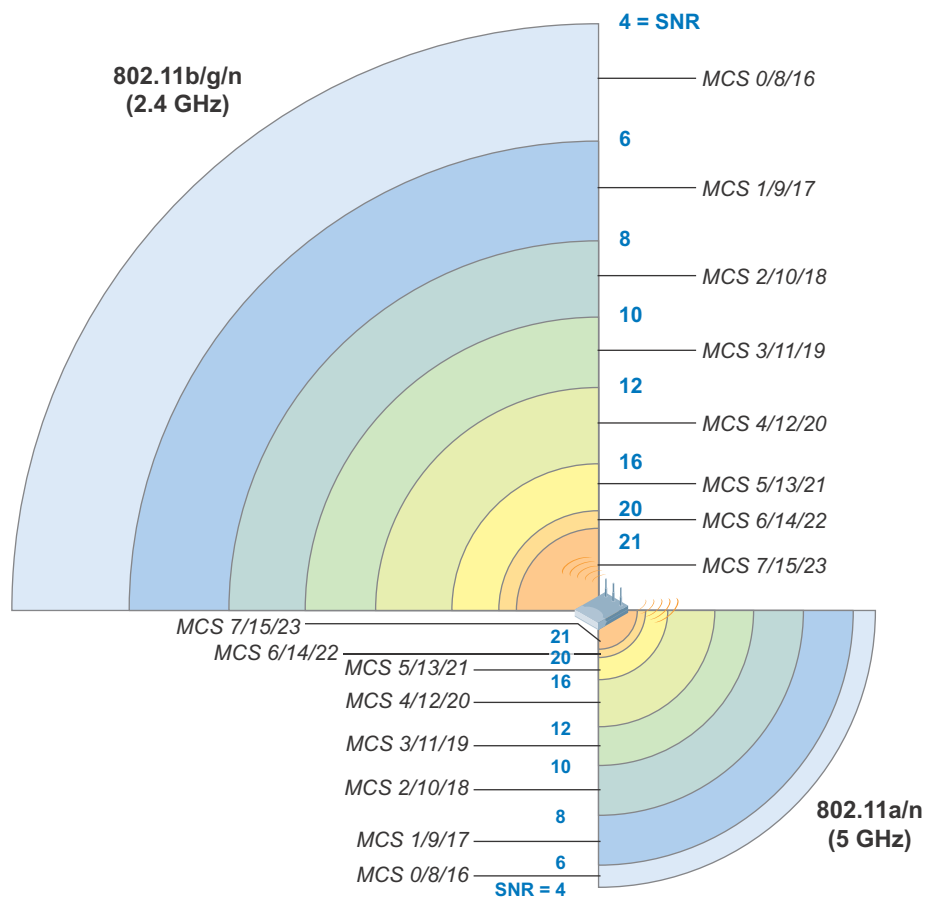

Figure 12 Cell radius varies with data rate and transmission frequency
In exchange for the higher density requirement, the 5 GHz spectrum offers many more channels and generally less congestion than the 2.4 GHz airspace. Bonded 40MHz channels that allow the full 300 Mb/s or 450 Mb/s data rates are possible only in 5 GHz. The 2.4 GHz airspace is shared with Bluetooth headsets, frequency-hopping (FH) devices, APs in neighboring locations, and wireless hotspots for customers. By moving to the 5 GHz band, users may need more APs, but the quality and reliability of voice and data communications increases significantly. Figure 12 shows the difference in speeds and range in an idealized model. Real world performance and 802.11n modulation and coding scheme (MCS) rates may vary for reasons beyond signal strength.